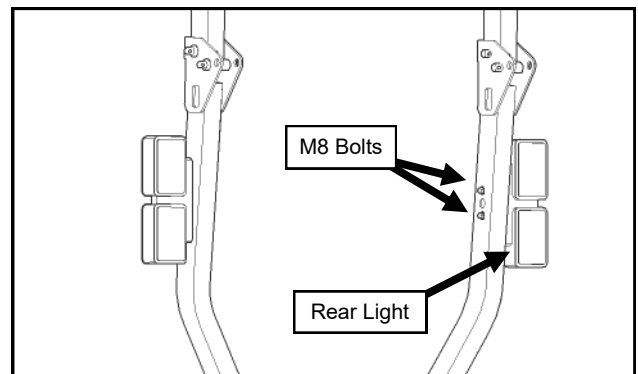

Fig. 1.3 (Unbolt Rear Lights)
- 1.3 Unbolt the rear lights and carefully pull at least 8" of wire through the hole in the ROPS, so as not to damage the wire insulation. See Figure 1.3.